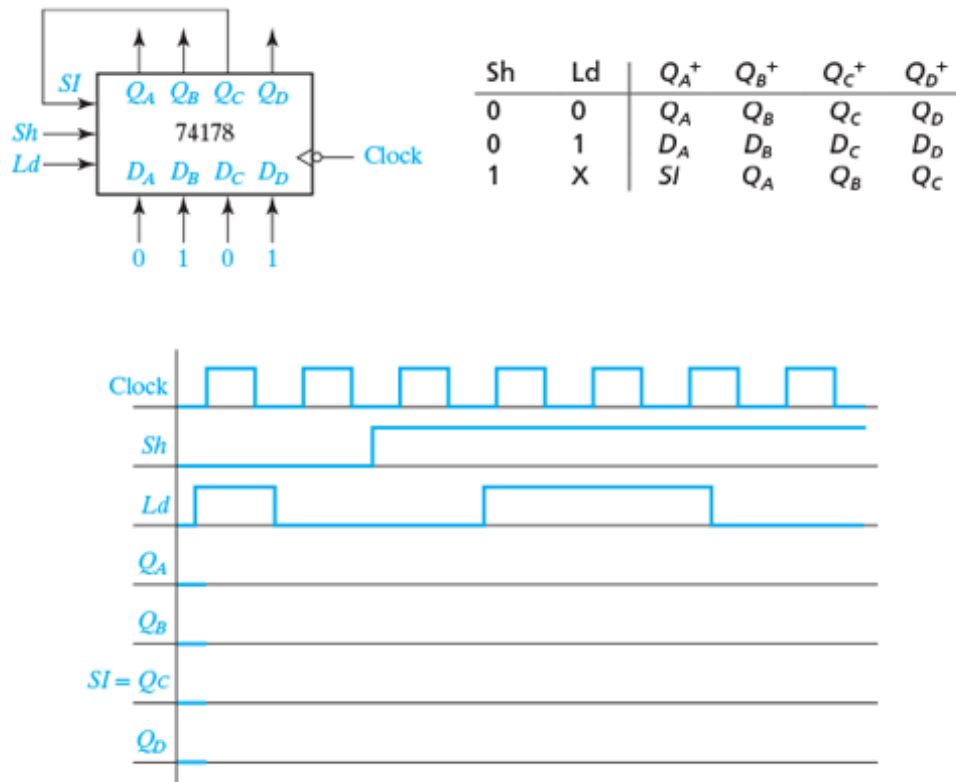

Figure 3: 74178 shift register block diagram, truth table, and timing diagram.
2.4 A 74178 shift register is described by the given block diagram and truth table in Figure 3. All state changes occur on the 1 → 0 transition of the clock. The shift register is connected as shown in the block diagram. Complete the timing diagram.